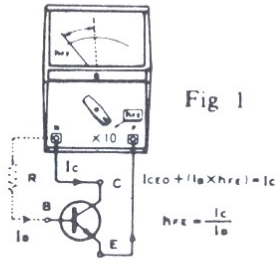

Fig 1
As a TR is connected to the tester as shown in Fig 1, there flows  $I_{CEO}$ . A certain resistance (R) connected across the N terminal and the base of the TR causes the current  $I_B$  to flow determined by R. For a good TR,  $I_B \times h_{FE}$  is led to the collector resulting in so much current increase and higher reading of the meter. The quantity of the current change can be scaled out as  $h_{FE}$  on the meter to read the amplification degree.